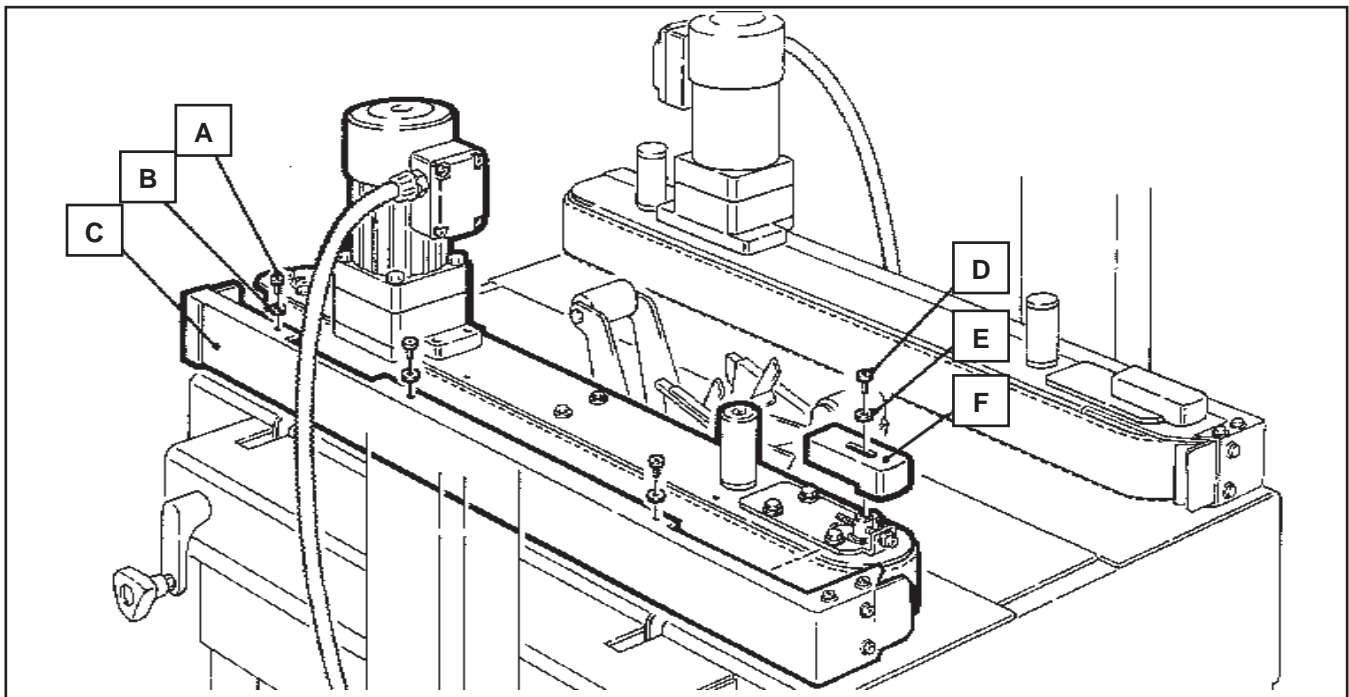
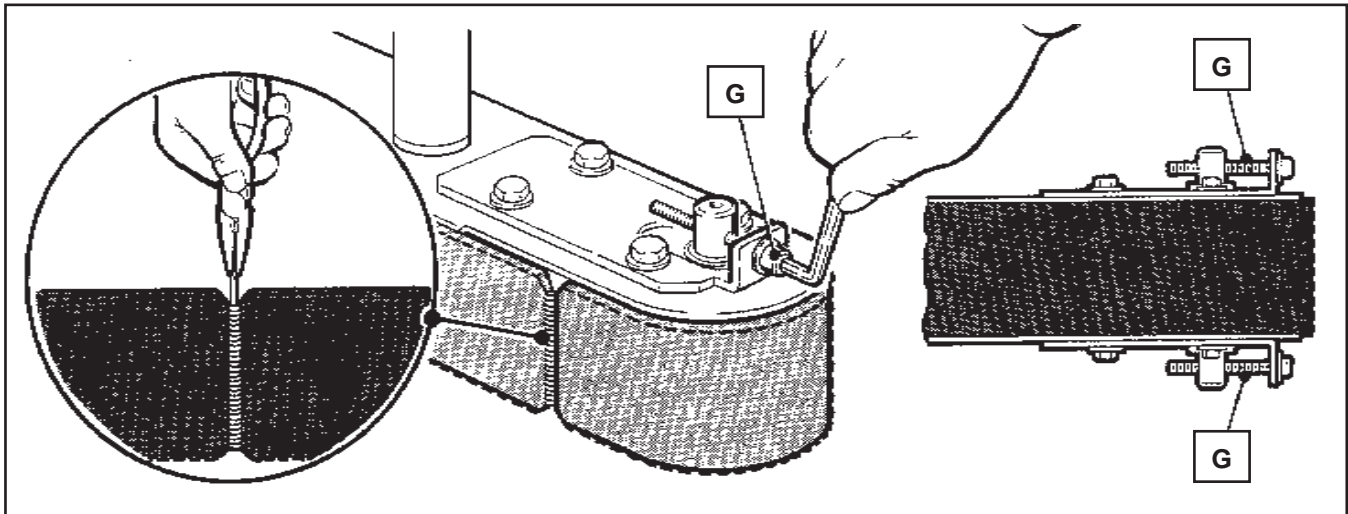

Figure 13-1 Box Drive Belt (Left Side View – Infeed End)
Figure 13-2 Box Drive Assembly, Infeed End
2. Remove and retain the three (3) screws (A), three (3) washers (B) and side cover (C). **See Figure 13-1.**
3. Remove and retain the screw (D), washer (E) and belt tensioner cover (F).
4. Turn belt adjustment screws (G) counterclockwise on both the upper and lower tension assemblies until belt is loose. **See Figure 13-2.**
7. To set drive belt tension, turn adjustment screws (G) equally on both the upper and lower tension assemblies. Turn the screws clockwise to increase tension or counterclockwise to decrease tension. **See Figure 13-2.**
8. Reverse procedures in Steps 1-3 (**Figure 13-1**) to reassemble the drive belt assembly.